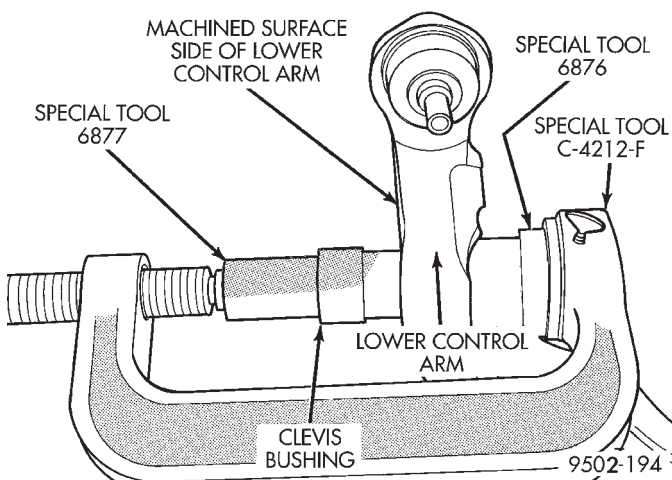

Fig. 105 Installing Clevis Bushing In Lower Control Arm
(1) Start clevis bushing into lower control arm **by hand, making sure it is square with its mounting hole in the lower control arm.** Bushing is to be installed in lower control arm from the machined surface side of lower control arm bushing hole.
(2) Mount Bushing Installer, Special Tool 6877 on screw portion of Remover/Installer Special Tool C-4212-F as shown in (Fig. 105).
(3) Install the assembled special tools for installing the clevis bushing into the lower control arm, on the lower control arm and clevis bushing (Fig. 105). Be sure Special Tool 6876 is square on lower control arm
and Special Tool 6877 is positioned correctly on clevis bushing (Fig. 105).